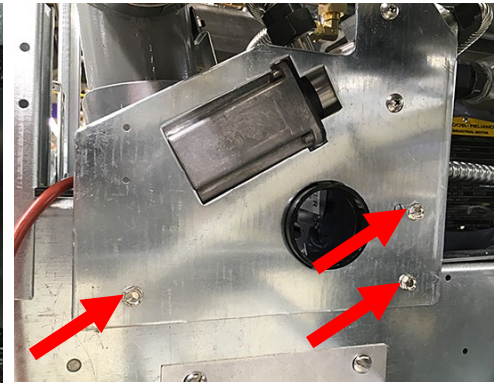

Figure 6
8. Attach the sensor assembly on the to the right filter pan rail, behind the door to the right of the filter pan using the supplied screws (see Figure 6).